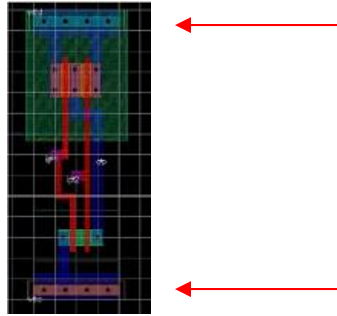

Figure 1 Layout with Bulk Connections under VDD / GND
12. Place the bulk connections under the VDD & GND straps (VDD at top, and GND at bottom of cell) to make room for your cell design as shown in Figure 1: